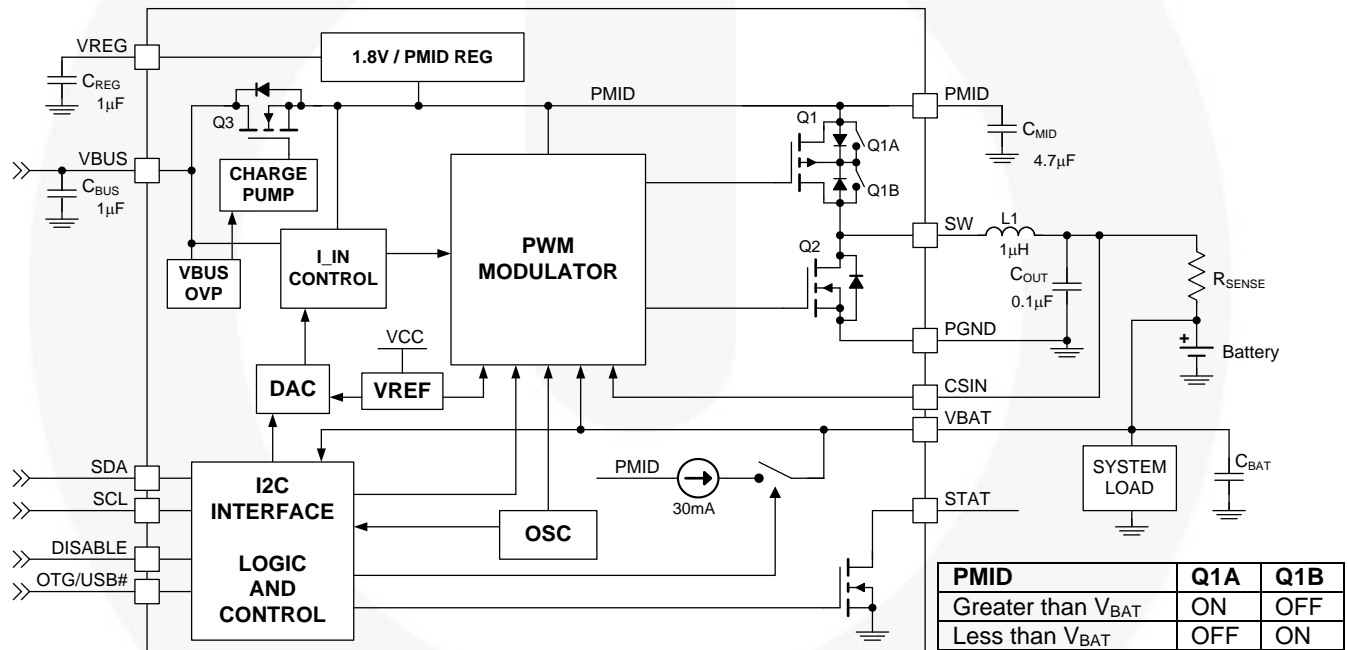

Figure 2. IC and System Block Diagram
3. A 6.3 V rating is sufficient for C_{MID} because PMID is protected from over-voltage surges on VBUS by Q3 (Figure 2).